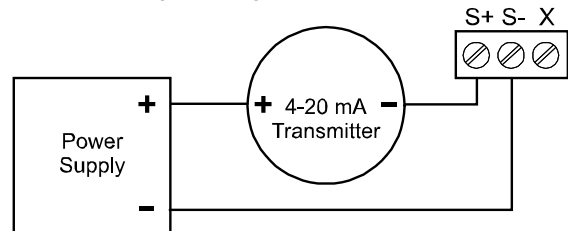

Figure 4. PD663 Input Connections without Backlight
*The 4-20 mA input with no backlight has a maximum voltage drop of 1.7 V and is wired as shown in Figure 4.*